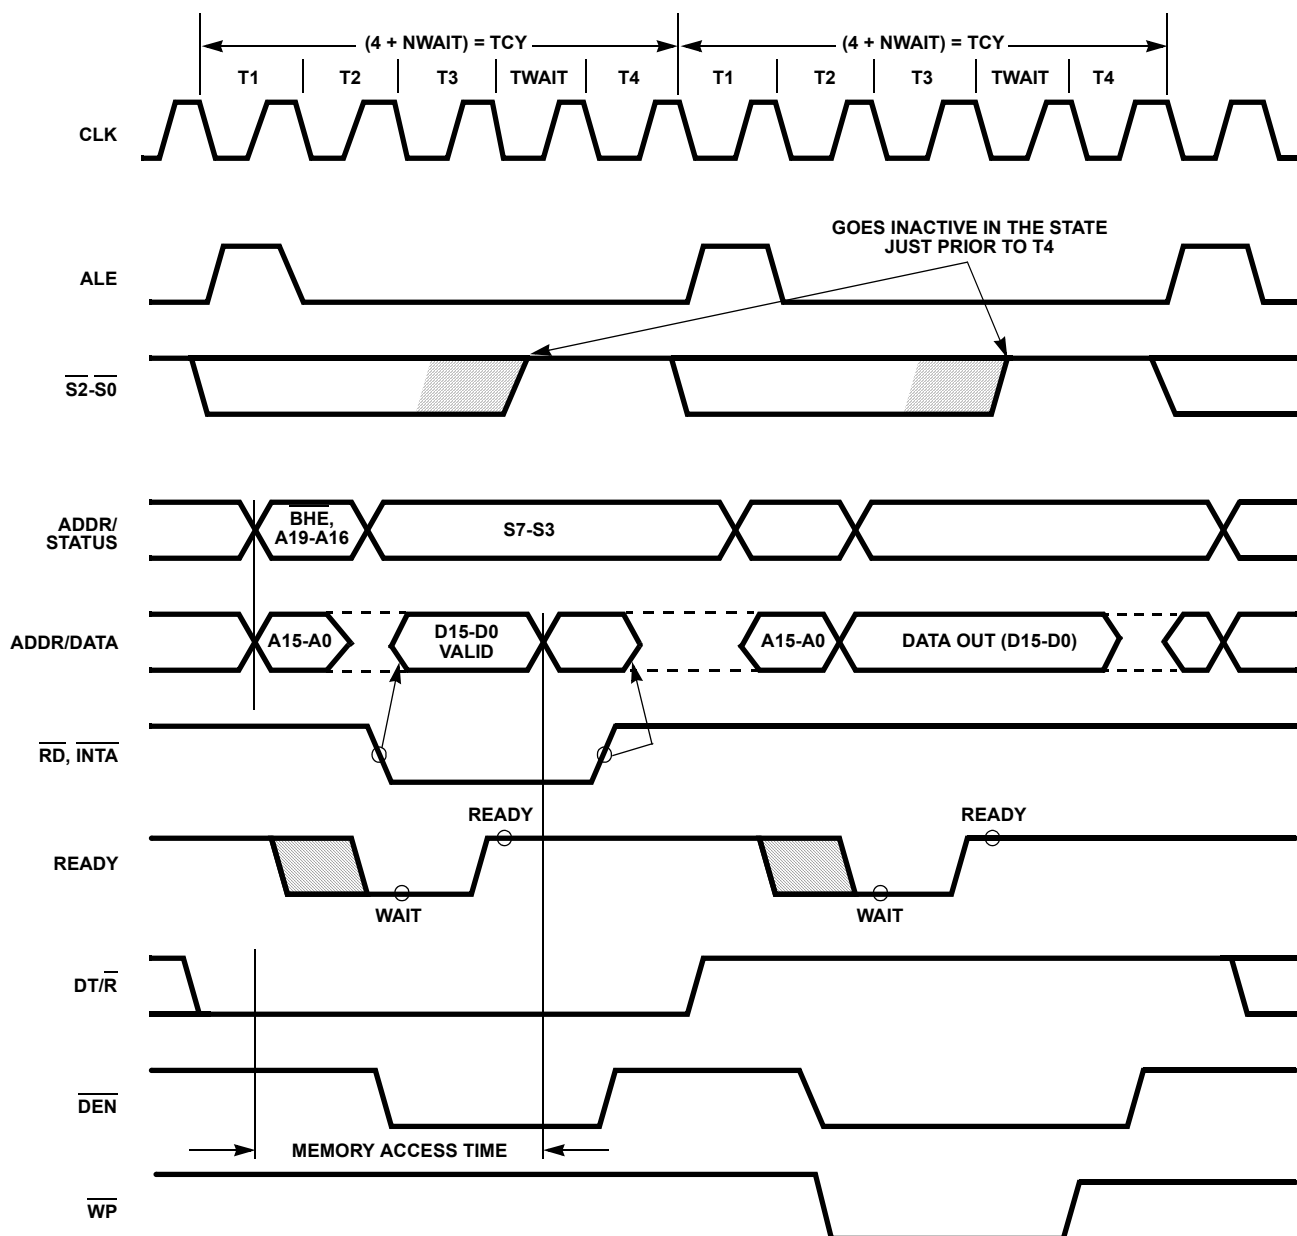

FIGURE 11. BASIC SYSTEM TIMING
Each processor bus cycle consists of at least four CLK cycles. These are referred to as T1, T2, T3 and T4 (see Figure 11). The address is emitted from the processor during T1 and data transfer occurs on the bus during T3 and T4. T2 is used primarily for changing the direction of the bus during read operations. In the event that a "NOT READY" indication is given by the addressed device, "Wait" states (TW) are inserted between T3 and T4. Each inserted wait state is the same duration as a CLK cycle. Idle periods occur between HS-80C86RH driven bus cycles whenever the processor performs internal processing.
Typical system configurations for the processor operating in minimum mode and in maximum mode are shown in Figures 14A and 14B, respectively. In minimum mode, the MN/MX pin is strapped to VDD and the processor emits bus control signals (e.g. $\overline{RD}$, $\overline{WR}$, etc.) directly. In maximum mode, the MN/MX pin is strapped to GND and the processor emits coded status information which the 82C88 bus controller used to generate Multibus™ compatible bus control signals. Figure 11 shows the signal timing relationships.